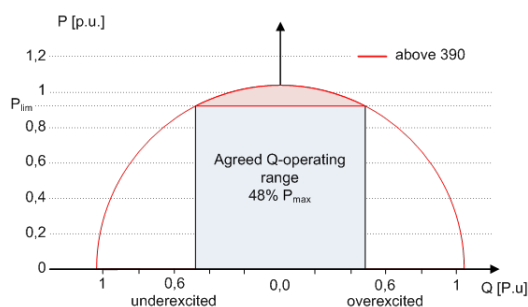

Fig. 98: P-Q operating range with limited active power ($Q_{max}=S_{max}\neq P_{max}$) for PV inverters
Some grid connection rules insist that the agreed reactive power be supplied from every operating point of the plant without a reduction in the actual active power. Considering the fact that all KACO TL3 inverters have a semi-circular(PV) full-circular(BI) P-Q operating range, a reduction in the active power is, however, required during operation at maximum active power because an apparent power reserve is not available. By adjusting P_{lim} the maximum active power can be restricted in order to establish an apparent power reserve and ensure that the agreed reactive power can be delivered from any active power operating point. The graphic [See figure 98 ► Page 91] shows the appropriate P-Q operating range with a required example active power of 48% of the maximum apparent power of the plant or 43% of the maximum active power of the plant.